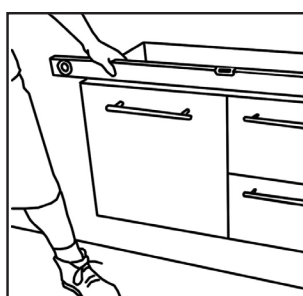

Fig.3
4. Check with spirit level that the unit is completely level. (fig 3 and 4)